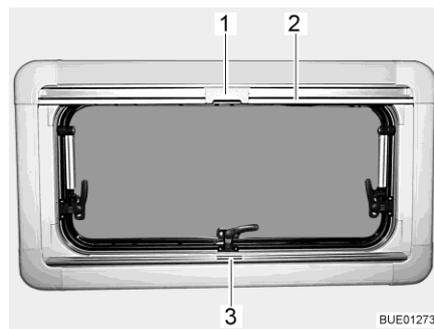
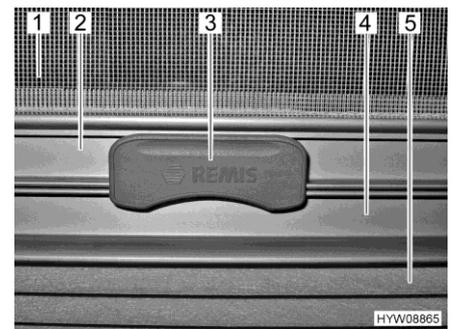

Fig. 14 Hinged window
Fig. 15 Catch
**Roman shade** The Roman shade (Fig. 15,5) is located in the lower blind box.
**Closing:** ■ Seize the Roman shade by the centre of the holding bar (Fig. 14,3 and Fig. 15,4), pull it from the bottom to the top and release it at the desired height. The Roman shade will stay at this height.
**Insect screen** The insect screen (Fig. 15,1) is located in the upper blind box.
**Closing:** ■ Pull the insect screen down by the holding bar (Fig. 14,2 and Fig. 15,2), until it touches the holding bar of the Roman shade (Fig. 15,4).
■ Clip the catch (Fig. 14,1 and Fig. 15,3) on the insect screen into the holding bar of the Roman shade. When the catch is locked, the Roman shade and the insect screen can be adjusted together.
**Opening:** ■ Push the catch (Fig. 15,3) on the insect screen upward.
■ Move the insect screen back slowly on the holding bar (Fig. 14,2).